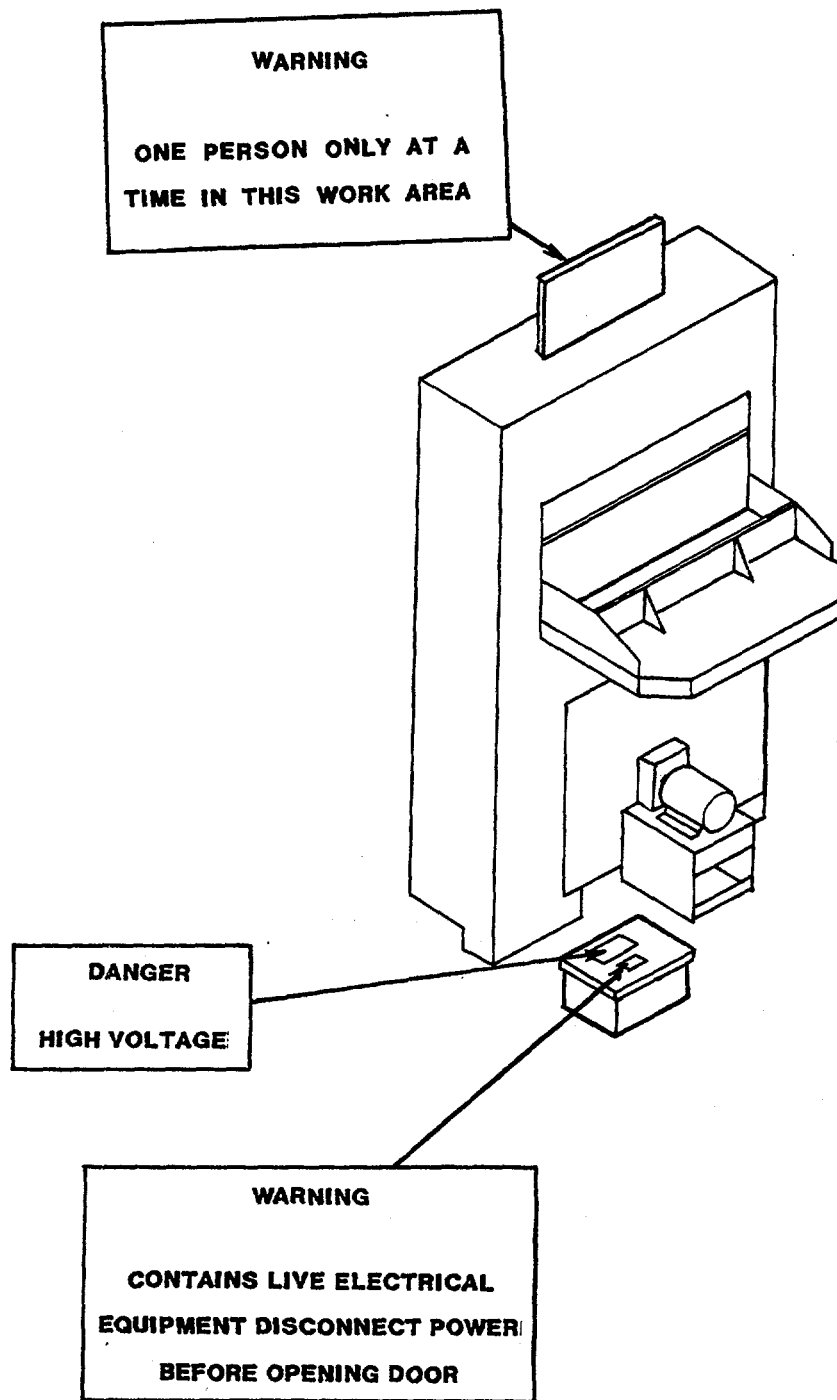

Figure 2-20. Paper Cutter Decals and Data Plates
c. Paper Cutter. Figure 2-20 identifies decals and data plates added to the paper cutter.